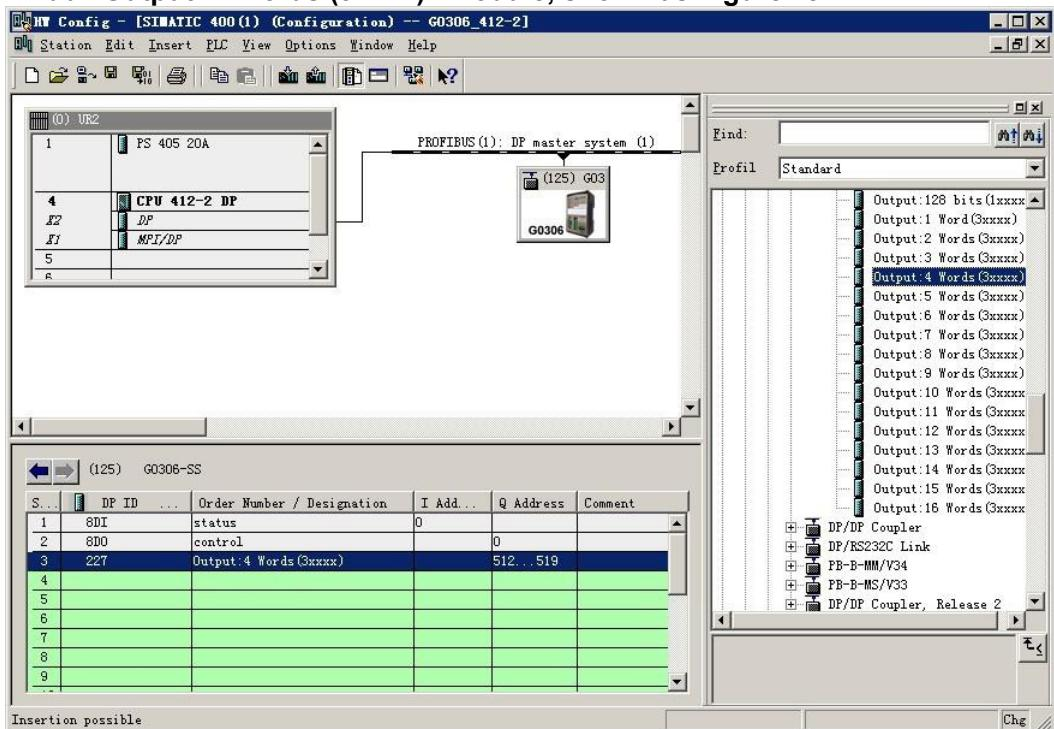

Figure 48 Add “Output: 4 Words (3xxxx)” module, shown as Figure 48
a) Add “Output: 4 Words (3xxxx)” module, shown as Figure 48: